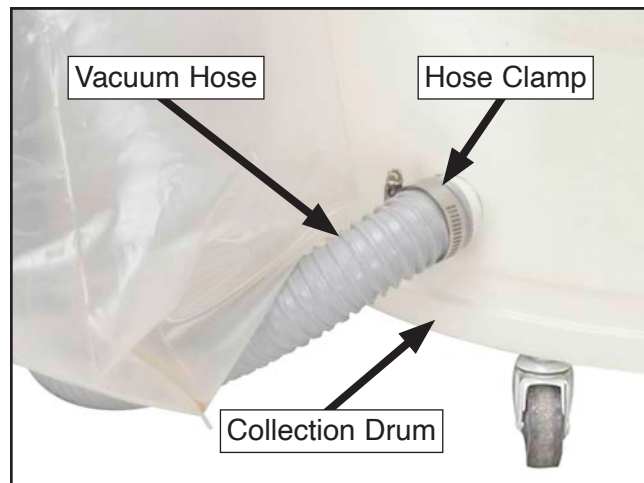

Figure 24. Vacuum hose connected to collection drum.
18. Connect vacuum hose to collection drum and tighten pre-installed hose clamp to secure, as shown in **Figure 24**.